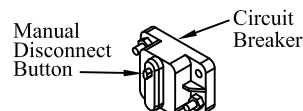

Figure 3: Circuit breaker.
4. **Disconnect** the #4 power cable from the positive side of the battery or manually **Trip** the circuit breaker (Figure 3).